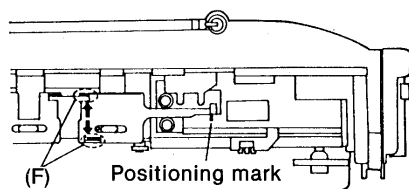

Fig. 3
*1 To install the AM/FM control knob, first set the band switch in the AM position. Then set the control knob so that the end aligns with the positioning mark shown in Fig. 3. Then insert the control knob into the cabinet.